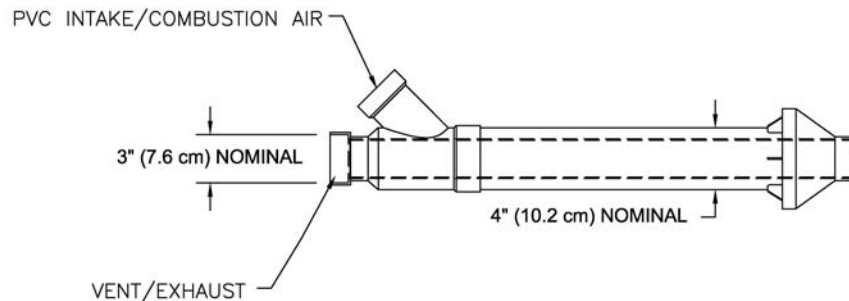

Figure 19. Dimensional Layout of Concentric Vent Kit
If assembly is too short to meet height requirements, the two pipes supplied in the kit may be replaced by using the same diameter pipe. DO NOT extend the overall dimension by more than 60 inches (152.4 cm). See Fig. 19.
1. Become familiar with coaxial vent kit part no. 239-44069-01. As shown in Figures 19 through 21.